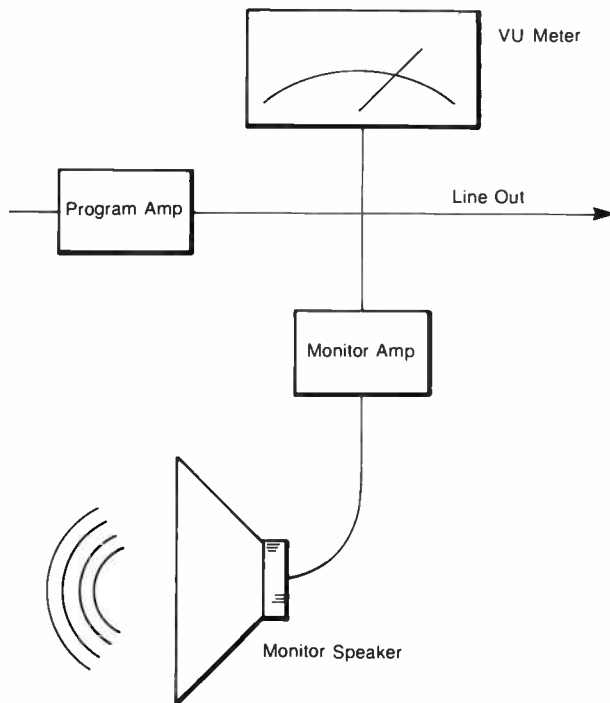

FIGURE 4.5 Monitor amp section of audio console.
Once the signal is through the input volume controls, it is amplified in a program amplifier and then sent several places (see Figure 4.5). One of these is a **monitor amplifier**. This amplifies the signal so that it can be sent into a **monitor speaker** to enable the operator to hear the signal that is going out. Boards usually contain a simple potentiometer to control the volume of the monitor speaker. This control in no way affects the volume of the sound being sent out to the transmitter (or audio tape recorder, etc.). It only controls the volume for the person listening to it in the control room. A common mistake of beginning broadcasters is to run the studio monitors quite loud and think all is well, while in reality they have the signal going through the audio board (and therefore on the air) at a
- In Figure 4.5, audible sound comes from the _____.